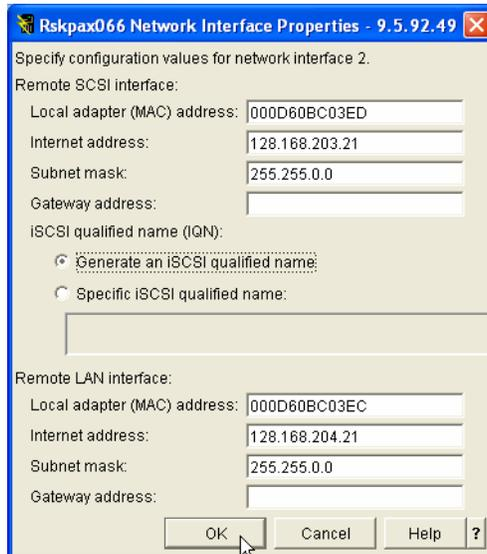

Figure 9-62 Adding a new remote system configuration iSCSI network interface - 1
8. Select the **Network Interfaces** tab. Click **Add** to add a new interface. You see a window similar to the one displayed in Figure 9-62 on page 435.